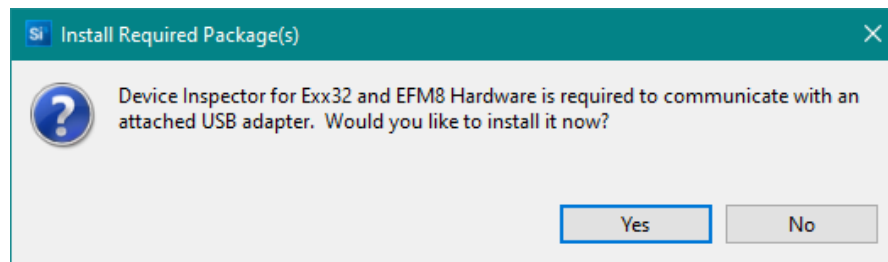

Figure 4: Install Required Device Inspector
- Once the initial software installation is complete, Simplicity Studio checks for connected hardware. If you have the WSTK connected by USB cable, Simplicity Studio will detect the USB device and prompt you to install a Device Inspector. Click **Yes**. See Figure 4.